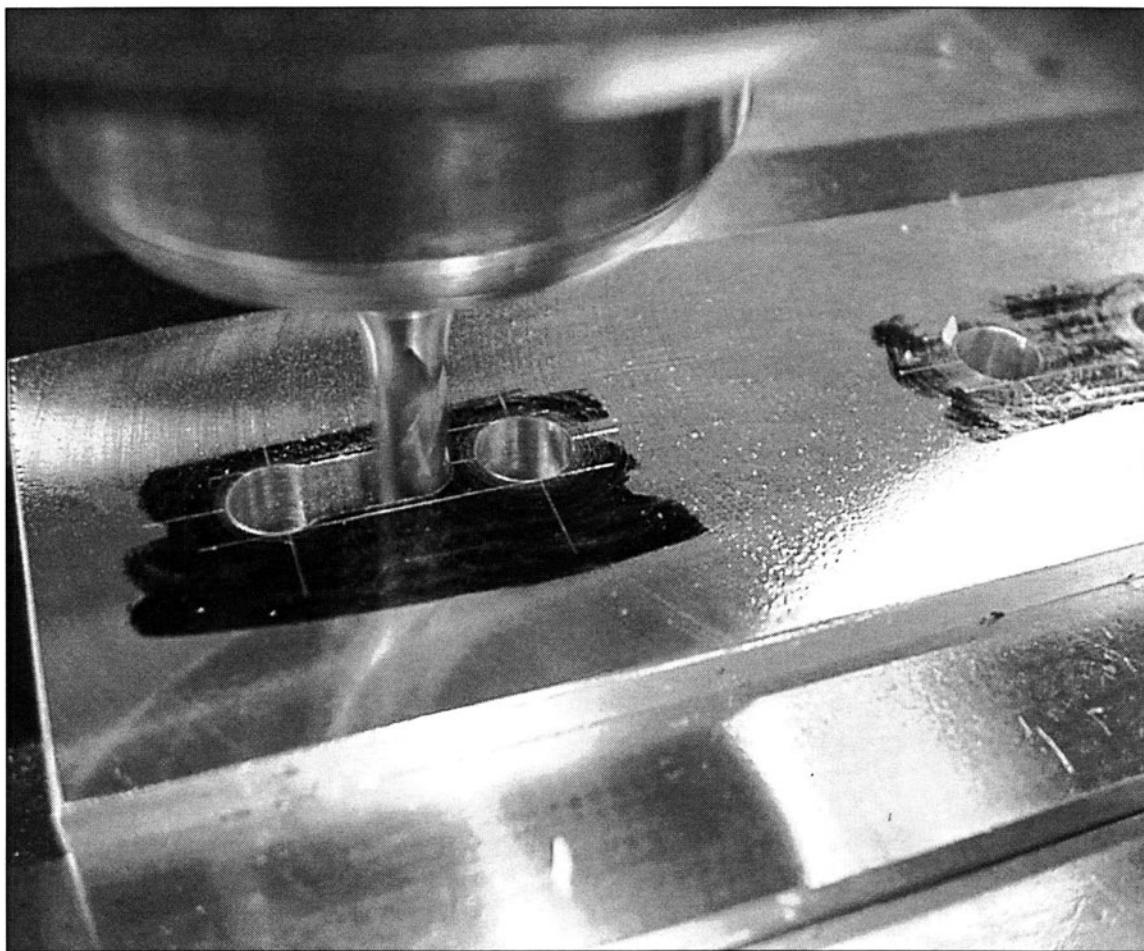

FIGURE 3-7 Slot milling is made easier by boring on-size holes at each end of the slot before roughing out the center section.
11. *Rough cut slots by plunging in "Z". (See Fig. 3-7)*